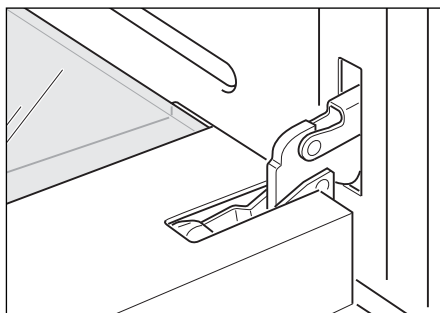

Fig.40a
- Fully open the oven door (Fig. 40a).
- 1 Make sure the door is locked open (see Figs 40a - 40c).